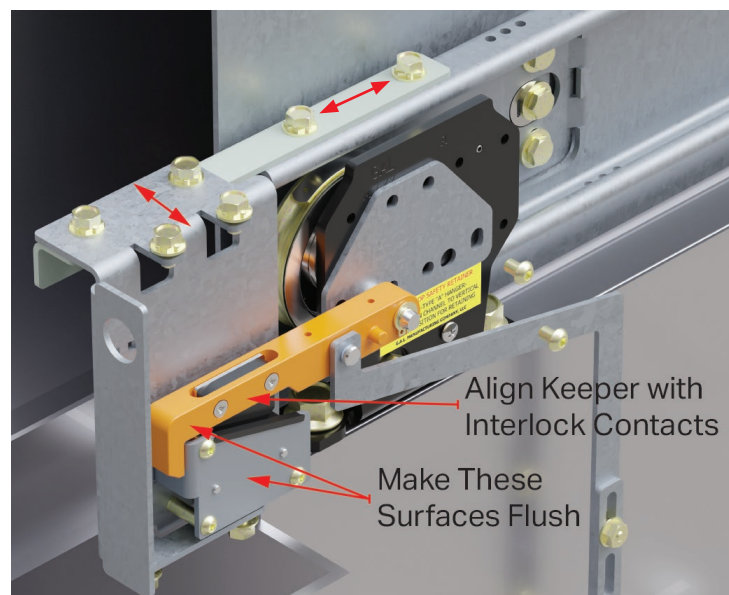

Figure 30: SS Interlock Mounting and Adjustment
4. Remove cover from the interlock and mount the interlock to the track as shown in **Figure 30**.
5. Adjust interlock so the keeper is aligned with the contacts and the front face of the keeper is flush with the contact plate when the car door is closed, as shown in **Figure 30**.